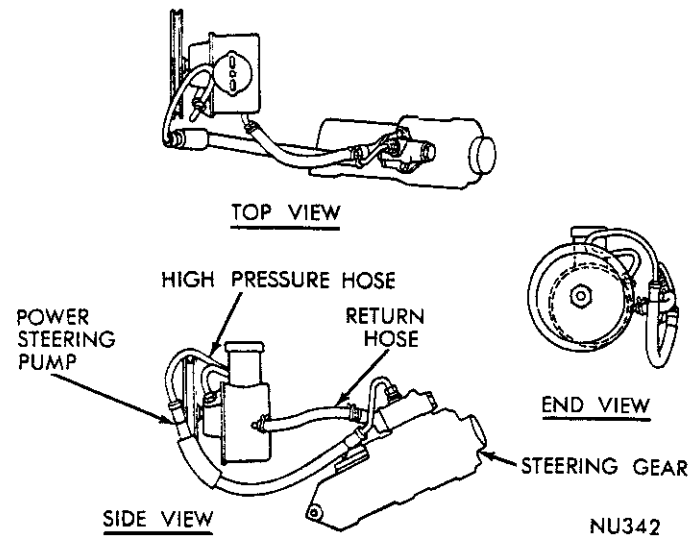

Fig. 4—Hose Routing—1.06 Pump 8 Cylinder Engines .94 MODEL
- (1) Route hoses in same position they were in before removal.
- (2) Route hoses smoothly, avoiding sharp bends and kinking.
- (3) When properly installed, the pressure hose tube ends should rest against the outside of the pump reservoir neck on one end, and the outside of the gear valve body on the other end (Fig. 4 and 5).
- (4) Tighten pump end hose fitting to 24 foot-pounds and gear end fitting to 160 inch-pounds.
- (5) Hoses must remain at least one inch away from all pulleys, battery case and brake lines, and two inches away from exhaust manifold.
- (6) When used, protective sponge sleeves must be properly positioned to prevent hose contact with other components in engine compartment.
- (7) After hoses are installed, check for leaks while system is being bled. See "Pump Installation".